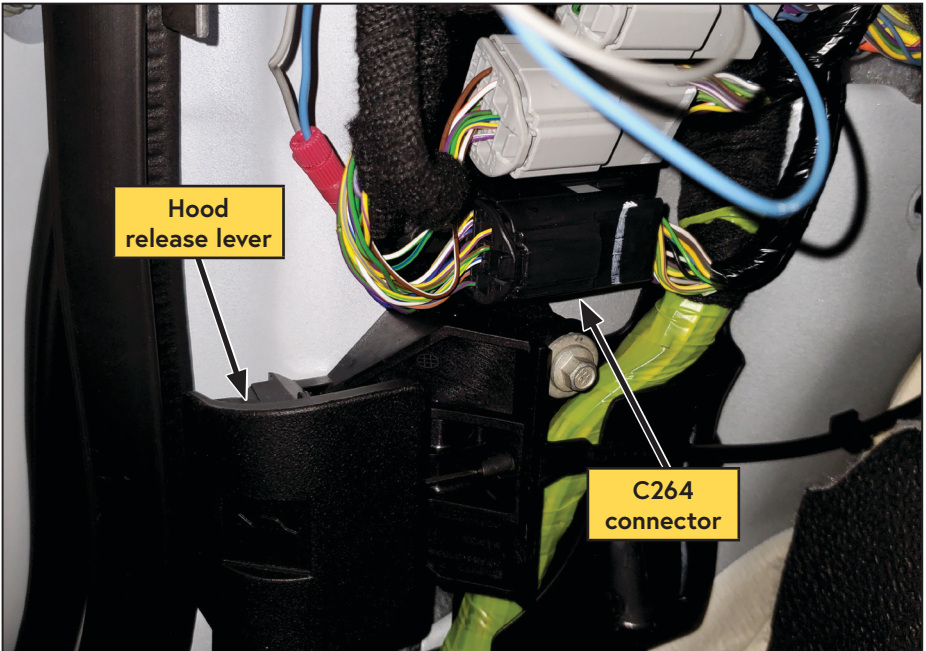

Figure 39 — Locate C264 connector
- Locate the black C264 connector (Figure 39)